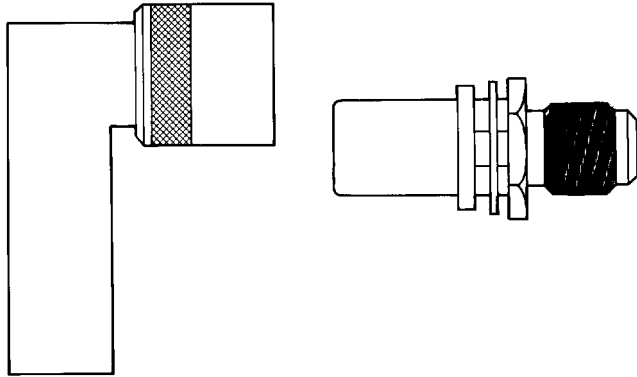

Figure 22. Typical QNC Series Connector 023022
55. **Series QNC Connectors.** These connectors are similar to the QSC type both in size and operating characteristics (Figure 22).